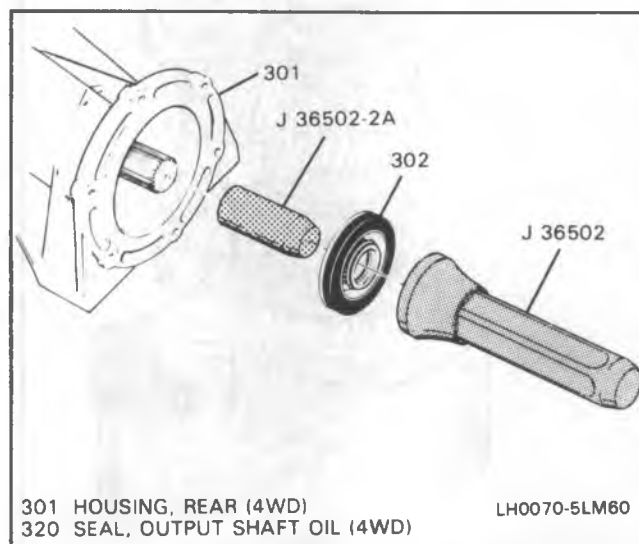

Figure 68 4WD Oil Seal Install
16. 4WD output shaft oil seal (320) using J 36502 (Figure 68).